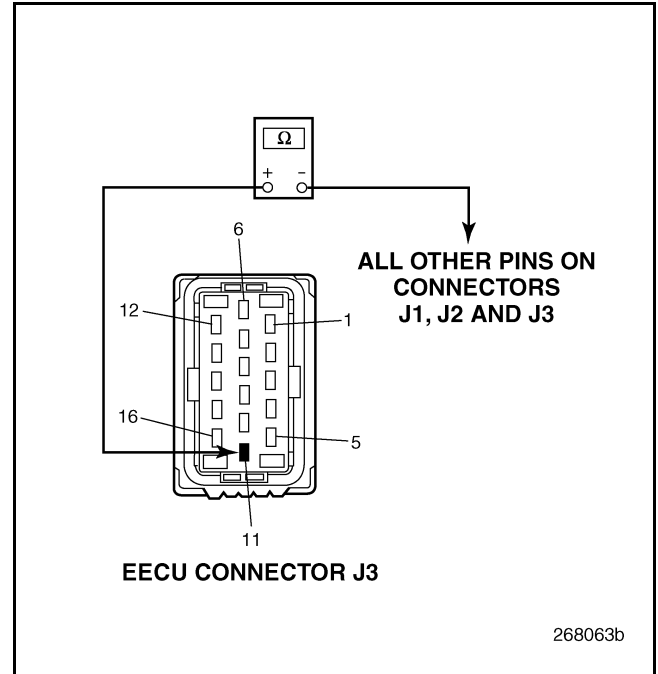

Figure 775
4. Check for continuity between EECU harness connector J3 pin 11 and all other pins on EECU connectors J1, J2 and J3 (see Figure 775).